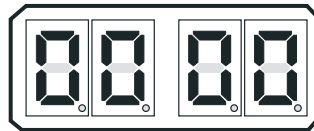

Figure 10-11: Display Station A/D's No Station Transfer Button Depressed
- A Depress the Up or Down (scroll) Push Button until four zeroes are displayed without decimal points as shown in Figure 10-11: Display Station A/D's No Station Transfer Button Depressed.